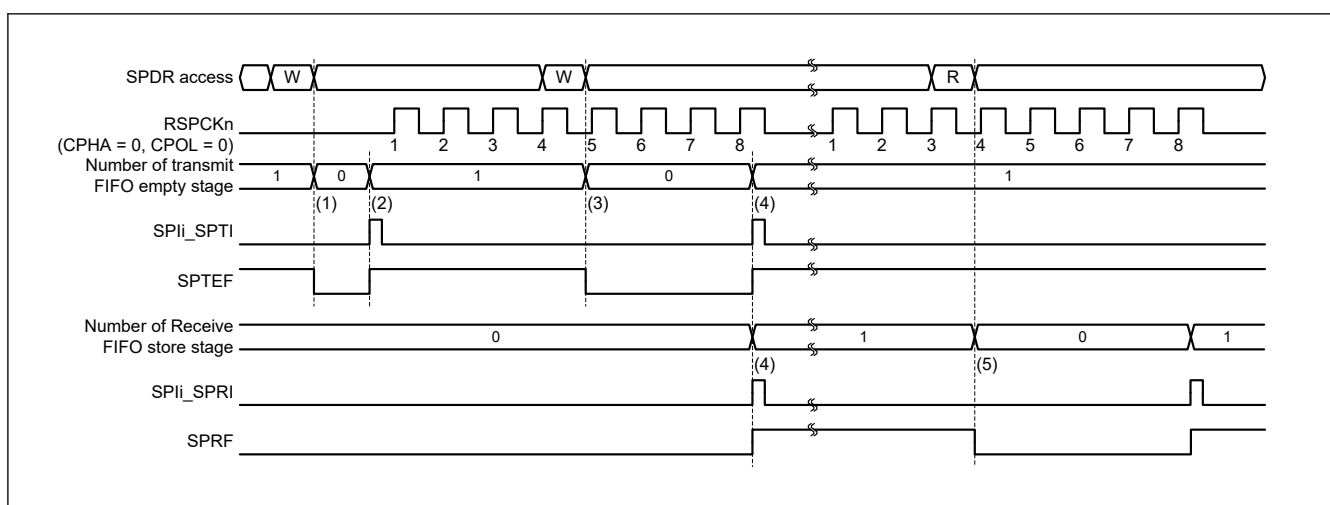

Figure 43.33 Operation example of the SPIi_SPTI and SPIi_SPRI interrupts when CPHA = 0 and CPOL = 0 in master mode
Figure 43.33 show examples of operation of the transmit buffer empty interrupt (SPIi_SPTI ($i = 0, 1$)) and the receive buffer full interrupt (SPIi_SPRI). The SPDR register accesses shown in these figures indicate the conditions of access to the register, where W denotes a write cycle and R a read cycle. In Figure 43.33, the SPI performs an 8-bit serial transfer when SPCR.TXMD[1:0] bits are 00b, the SPDCR2.TTRG bit is 0, the SPDCR2.RTRG bit is 0, the SPCMDm.CPHA bit is 0, and the SPCMDm.CPOL bit is 0. The numbers given for RSPCKn in the waveform represent the number of RSPCK cycles, such as the number of transferred bits.
The operation of the SPI at timings (1) to (5) in Figure 43.33 is as follows: